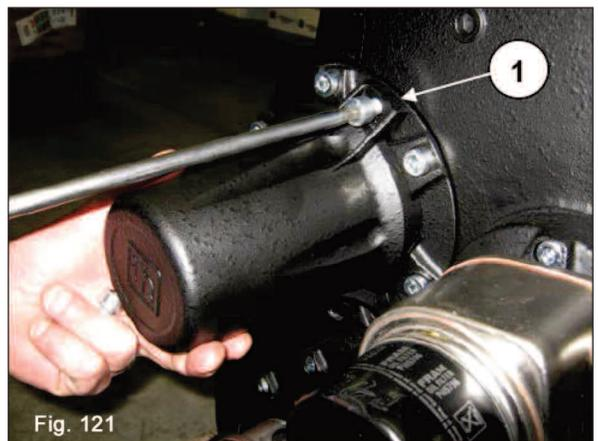

Fig. 121
Mount the shaft end cover and affix it to the casing using (3) M10x20 screws (1, fig. 121).